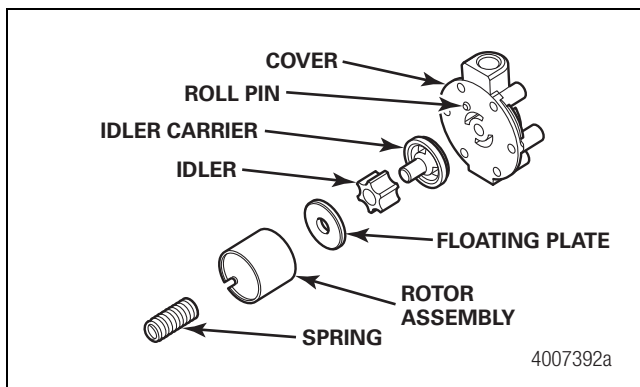

Figure 4.9
- B. Gently tap the idler carrier out of the rotor. The idler and floating plate will come out with the idler carrier. Figure 4.9.